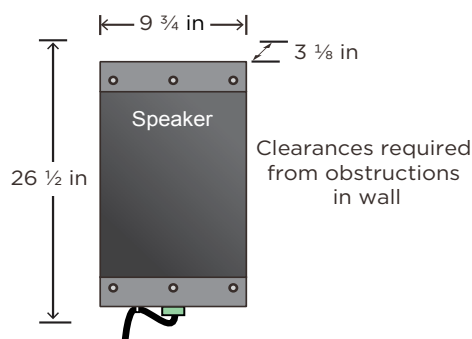

Figure 3.
2. The following clearances are required to install the speaker (with no obstruction from studs or other wall fixtures): (9 $\frac{3}{4}$ in x 26 $\frac{1}{2}$ in x 3 $\frac{1}{8}$ in) (248 mm x 675 mm x 80 mm). See Figure 3 below.
1. Place the Drywall Scoring Template onto the wall or ceiling where the speaker will be installed. As described in step 2 above, ensure no studs or other obstructions are directly behind the wall where the cuts will be made (Figure 3 above shows the clearances required).